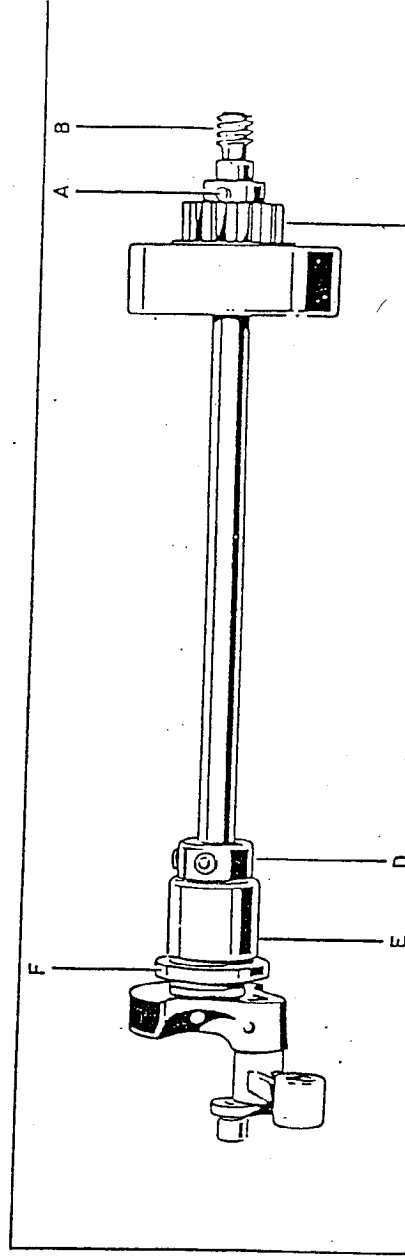

Fig. 17
- by means of a long punch, extract the conical pin driven into the hub of the toothed pulley C (fig. 17);
Assembly (fig. 17)